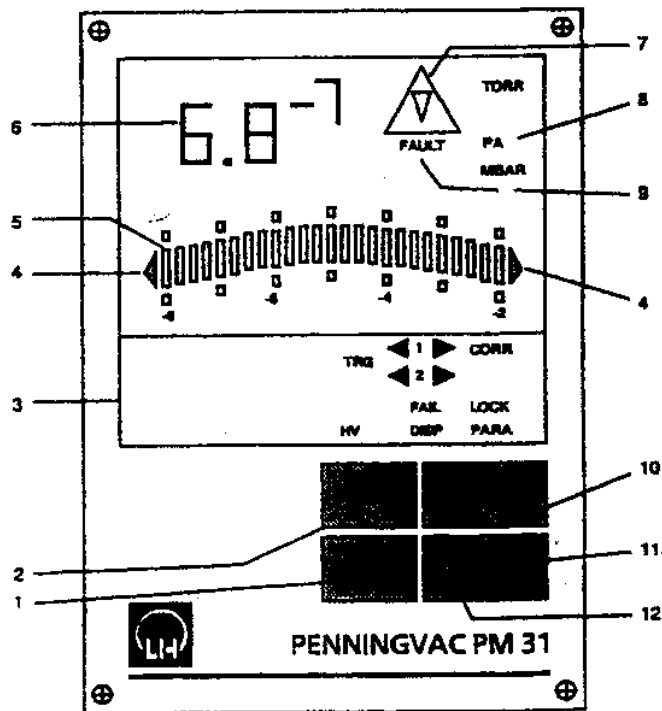

Fig. 2 Arrangement of controls and displays
- 3) Donner la signification des éléments 8 , 6 , 5 et 4 de la figure 2.
An overview of the placement of the controls and the display elements is given in Fig. 2.
Key to fig. 2